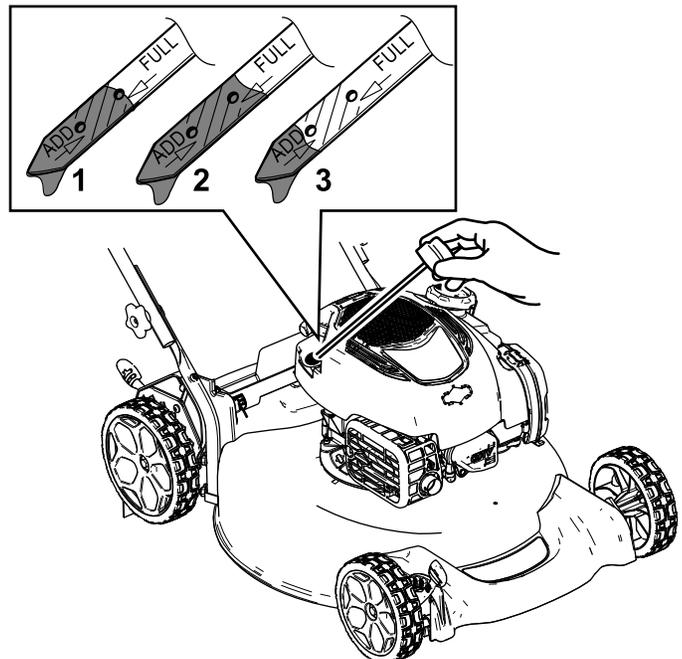

Figure 20
3. Remove the dipstick by rotating the cap counterclockwise and pulling it out (Figure 20).
10. Read the oil level on the dipstick (Figure 20).